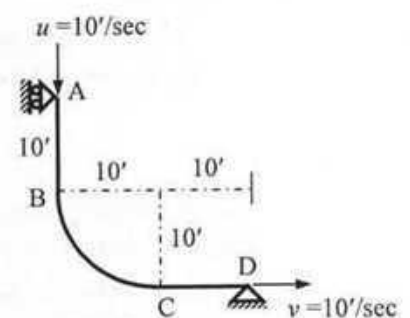

Fig. 8
10. Fig. 8 shows a curved pipeline *ABCD* (with cross-sectional area  $a_p = 20$  in2) supported at *A*, *D* and subjected to water flowing in (through *A*) and out (through *D*) at equal velocity  $u = v = 10$  ft/sec.